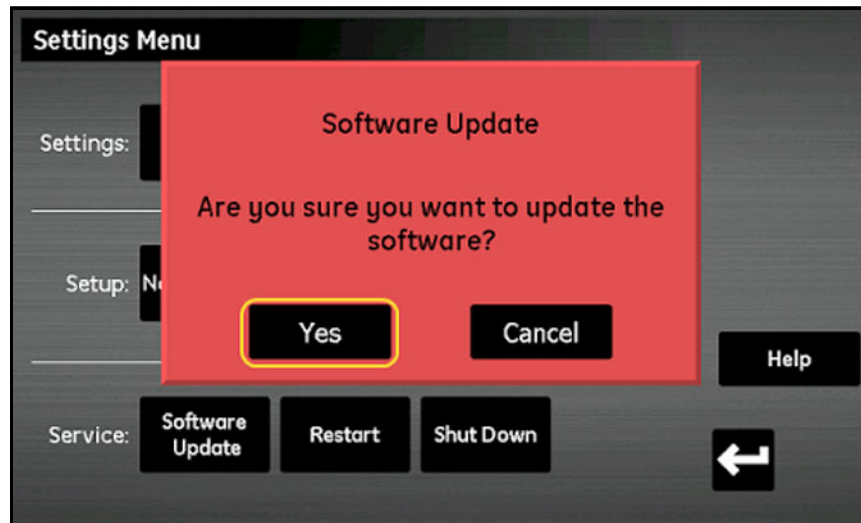

Figure 88: Update Confirmation
- The moisture.IQ prompts you to confirm you want to update the software (see *Figure 88* below). Tap the **Yes button**.